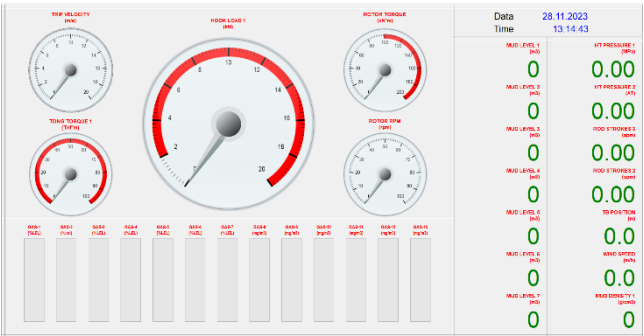

Figure 8. Driller Monitor software's screen example (Monitor 1)
6. The MV-150(S) Screen Operation
The Driller Monitor software is automatically started after the MV-150(S) is turned on (see Fig. 8, 9). Screen contains fields with the parameters selected during the last startup. If there is a network connection, the monitor connects and synchronizes with the data stored in the MU-150E Control Module connected to this network.